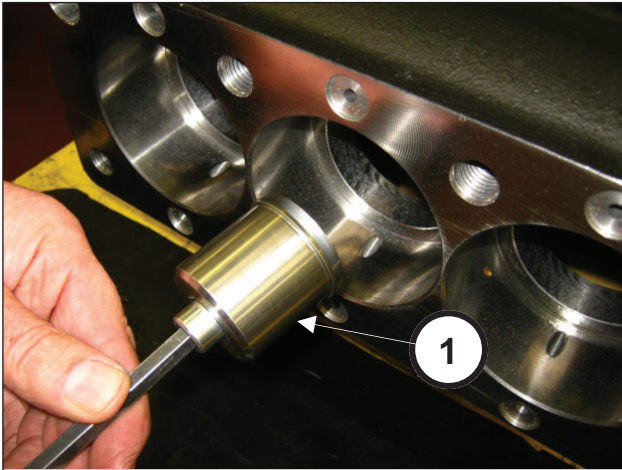
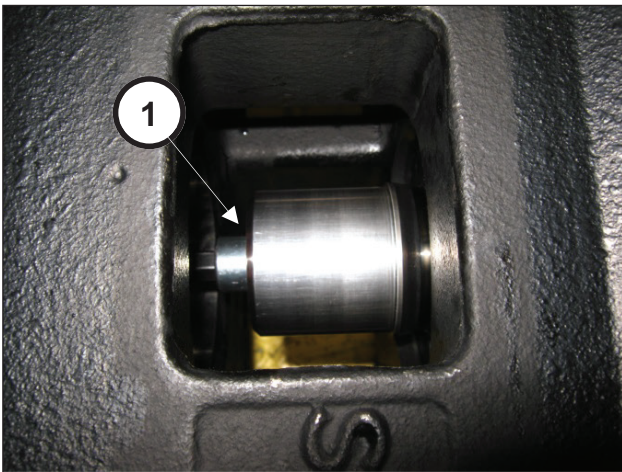
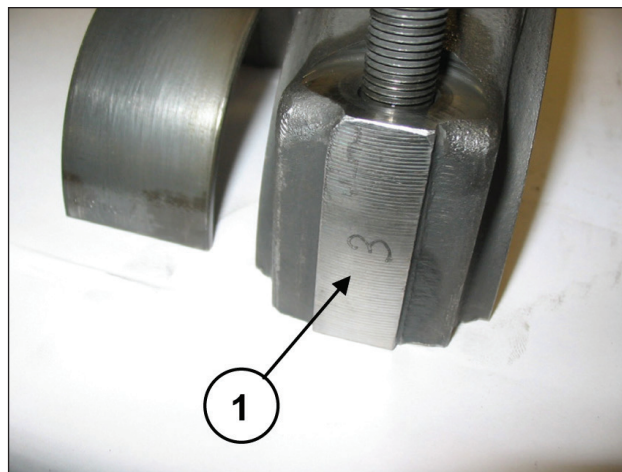

Fig. 34
Fig. 35
Fig. 42
Insert the tool (pos. ①, Fig. 34) and screw it on the rod to end stroke (pos. ①, Fig. 35).
Couple the conrods to the previously disassembled caps, referring to the numbering (pos. ①, Fig. 42).
Separate the caps from the conrods. Proper coupling can be verified by the numbering on the side (pos. ①, Fig. 42). After having checked casing cleaning, proceed with assembly of half support-piston guide unit inside casing rods (pos. ①, Fig. 35).
Block the three units with the use of special tool code 27566200 (pos. ①, Fig. 34).